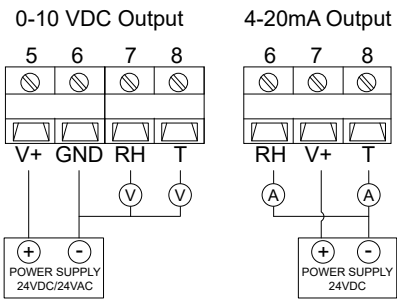

Figure 4 AcuHUM RM Wiring Diagram, RH and Analog Temperature Output
**NOTE:** If using 4-20mA output for RH/temperature signal, the sensor must be powered with an 18.5~35VDC (RL=500Ω) power supply. Ensure that the analog input common reference of the BAS controller, PLC, and Automation Panel is connected to the DC power supply common reference to complete the circuit. The sensor will not work if the common references are not connected. Refer to Figure 4 below.